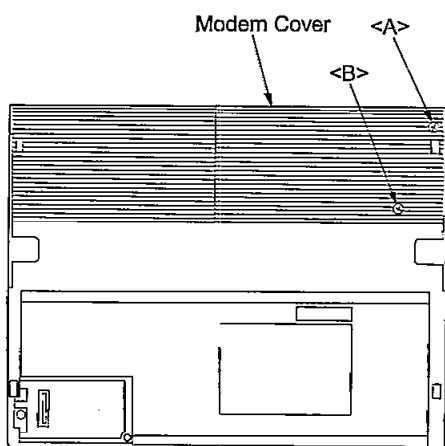

Figure 6
1. Remove two screws <A> (Shaft screw) and ($\text{Ø}2 \times 8$ mm). (Refer to Figure 6)
2. Carefully raise the MODEM cover and remove it. (Refer to Figure 6)